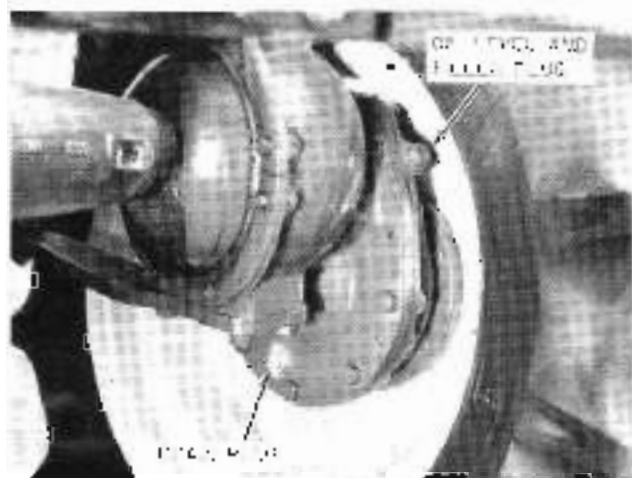

Figure 46 - Final Reduction Gear Case Fill and Drain Plug
**Checking Oil Level:** Check the oil level in each final reduction gear case after every 50 hours of operation by removing the fill and level plug (Figure 46). The oil level should be level with the bottom of the plug opening.
**Changing Oil:** Drain and flush the reduction gear case after every 200 hours of operation by removing the drain plug (Figure 46). Use only new oil. Use clean and a high quality, extreme pressure gear lubricant with an anti-oxidant additive. Refer to the following chart for recommended viscosity grades.